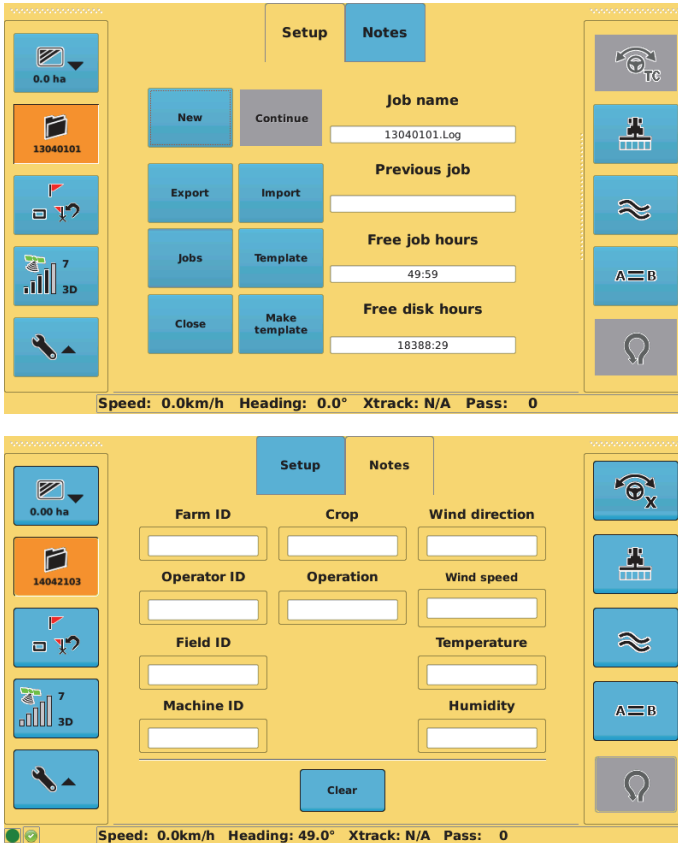

Figure 5-1: Setup and Notes screens (Job)
You work with jobs using the two Job screens (Setup and Notes) as shown in Figure 5-1.
1. Press the **Job** screen button then the **Setup** tab. The Setup screen appears (see Figure 5-1 above).
1. Press the **Job** screen button then the **Setup** tab. The Setup screen appears (see Figure 5-1 on page 88).
- Press the **Job** screen button then the **Setup** tab. The Setup screen appears (see Figure 5-1 on page 88).